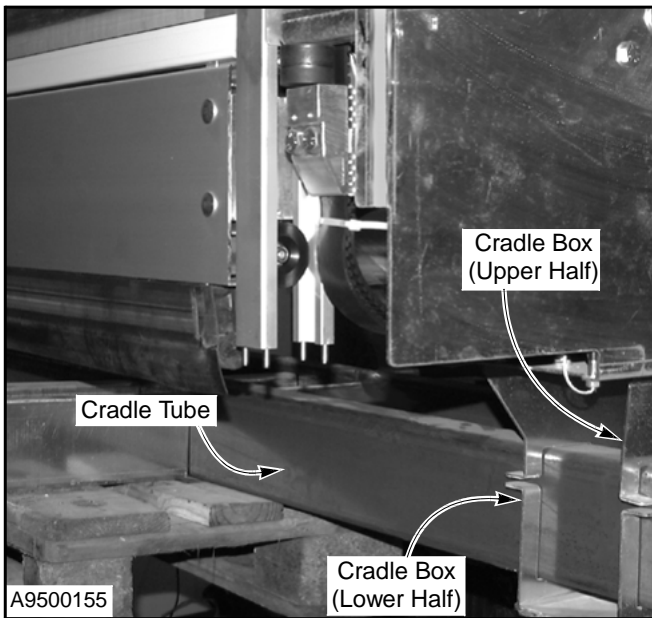

Figure 23
- Before lowering the forklift, disconnect the steel cradle assembly from the head assembly. To do this, simply remove the two pairs of screws securing the ends of the cradle to the ends of the head assembly. (See Figure 23.)